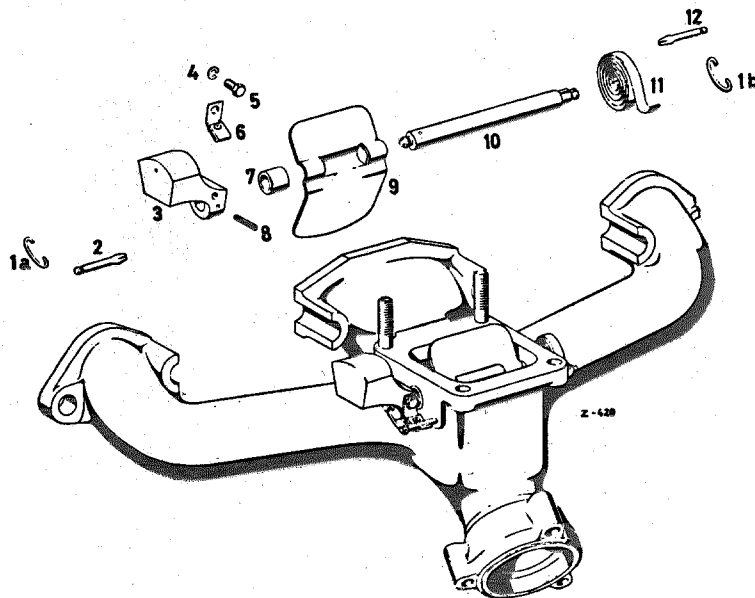

Fig. 14—5/1
1. Disconnect the tension spring (1b) and pull the heating spiral (11) off the heater valve shaft (10) (see Fig. 14—5/1).
that with the heater valve open the spring rests against the notched attaching pin (2) (see Fig. 14—5/1).